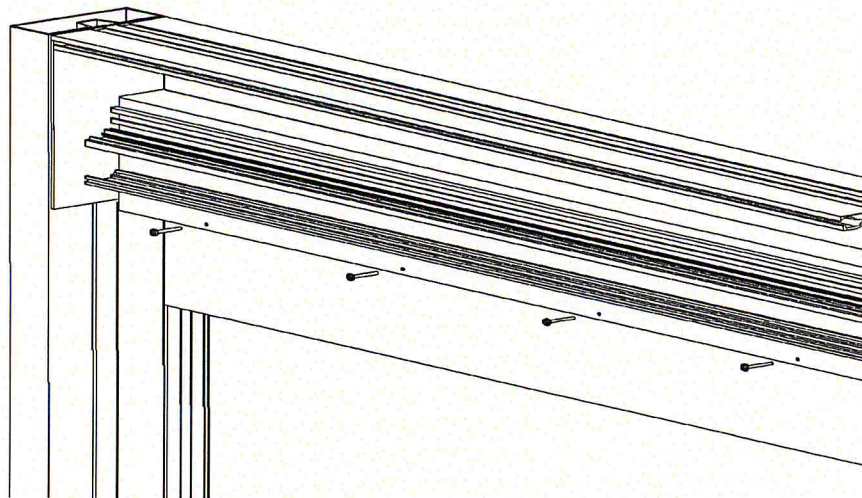

Figure 4
3. Secure the top of the track to the header flange with screws inserted from the interior side of the header. **Figure 4**